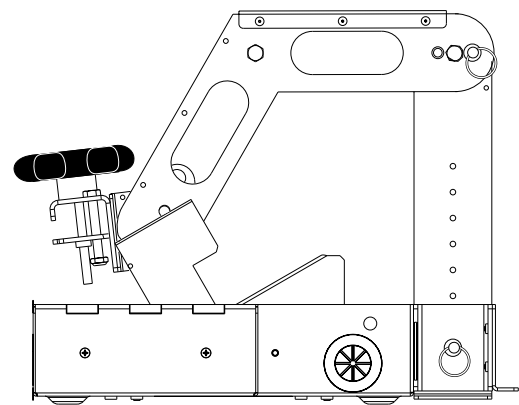

Figure 28
- e) Rotate the arm into its storage position (Figure 28).